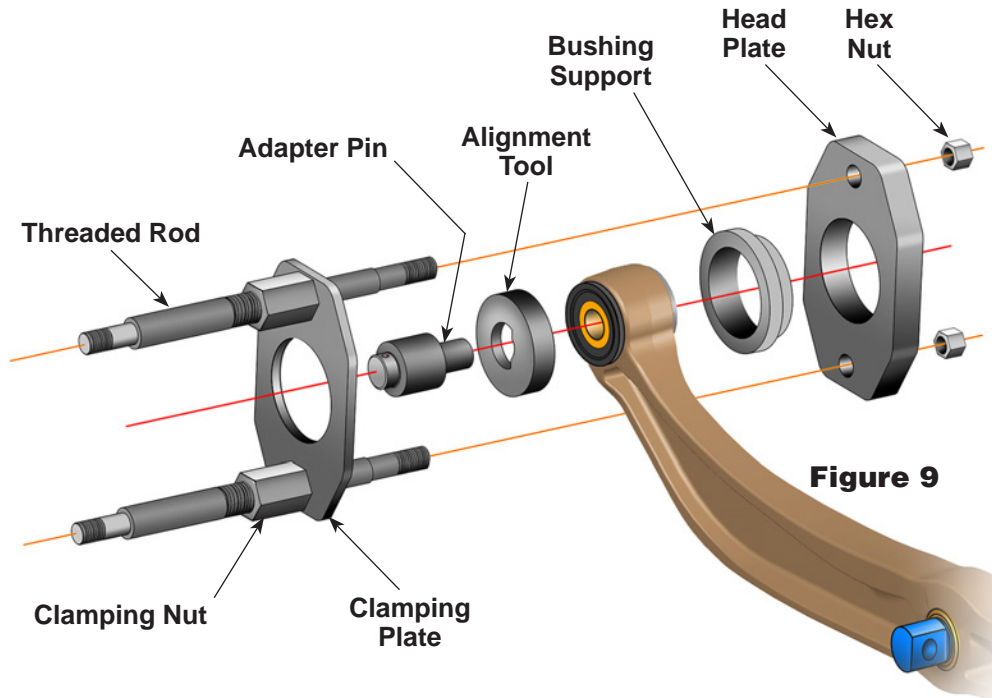

Figure 9
1. Insert the adapter pin through the alignment tool and into the pivot bushing hole as shown in Figure 9.